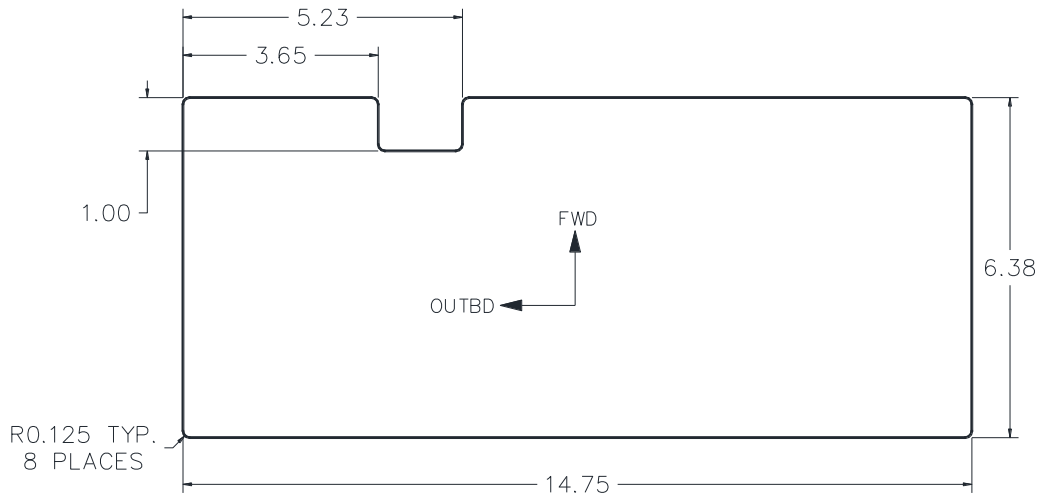
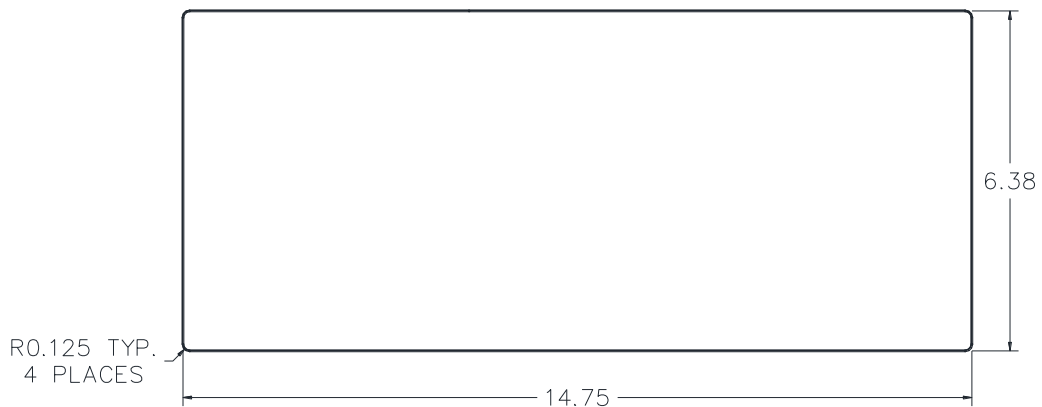

Figure 26: Floor Skin Patch – Extended Seat Rails (dimensions in inches)
Figure 27: Floor Skin Patch – Regular Seat Rails (dimensions in inches)
- 1) Manufacture a Floor Skin Patch for each side using 2024-T3 clad aluminium per SAE-AMS-QQ-A-250/5 with a thickness of 0.040" to the dimensions shown in Figure 26 for aircraft with extended seat rails or in Figure 27 for aircraft with regular seat rails.